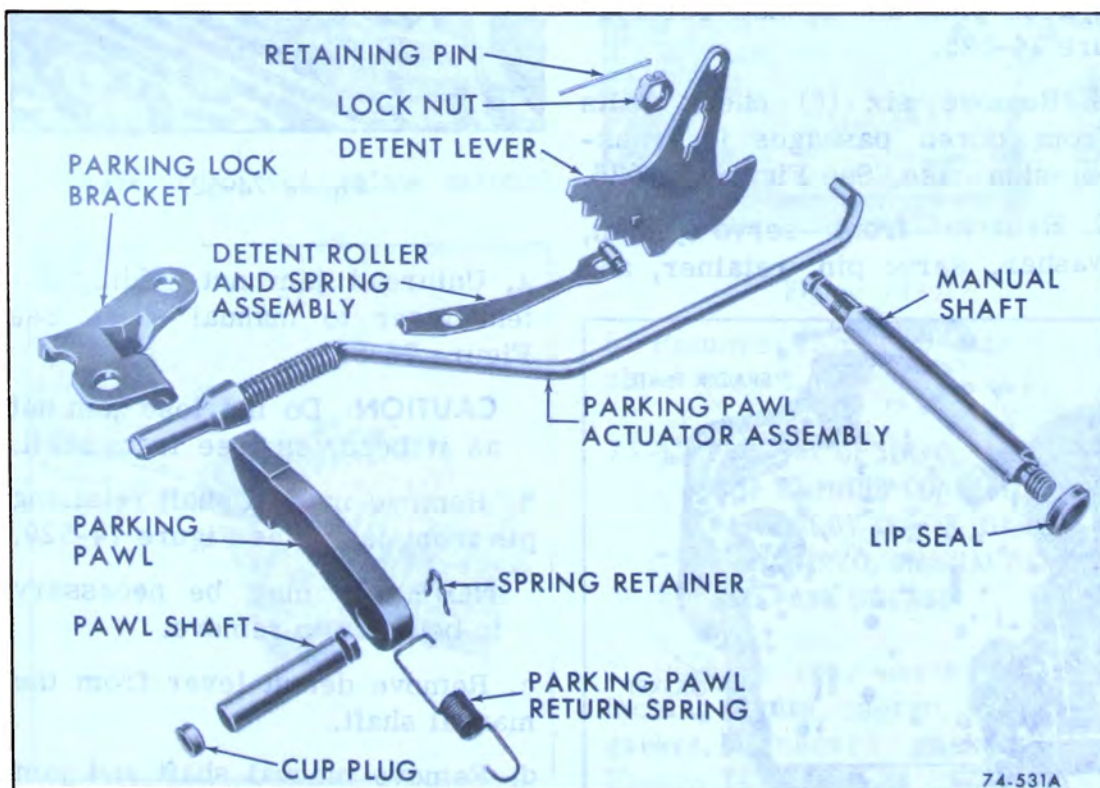

Figure 74-530
d. Remove manual shaft and jam nut from case. See Figure 74-530.